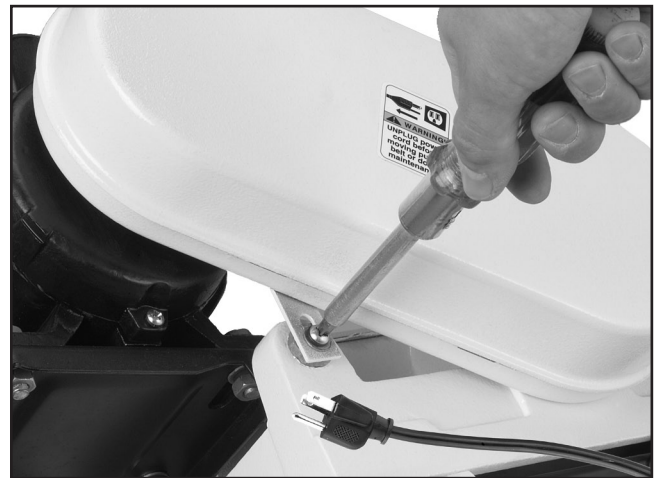

Figure 10. Installing pulley cover.
- Place the pulley cover over the motor and gear shafts, and secure with the (already installed) M6-1 x 12 Phillips head screws and flat washers as shown in **Figure 10**.